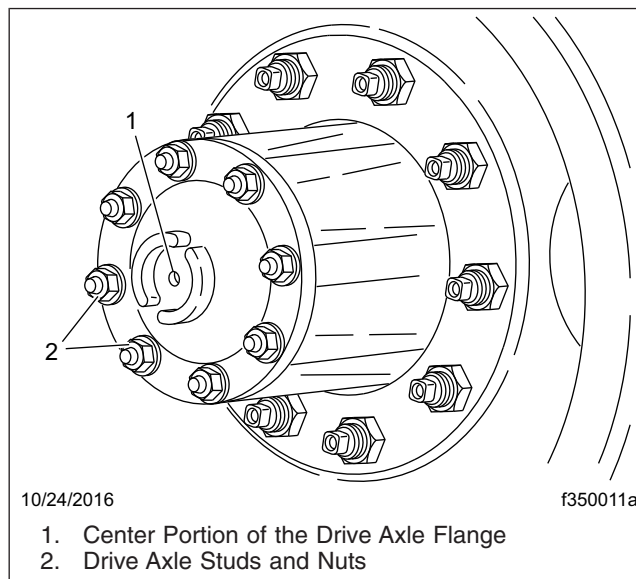

Fig. 1, Wheel Assembly and Hub
3. Remove the drive axle stud nuts and washers. See Fig. 1.